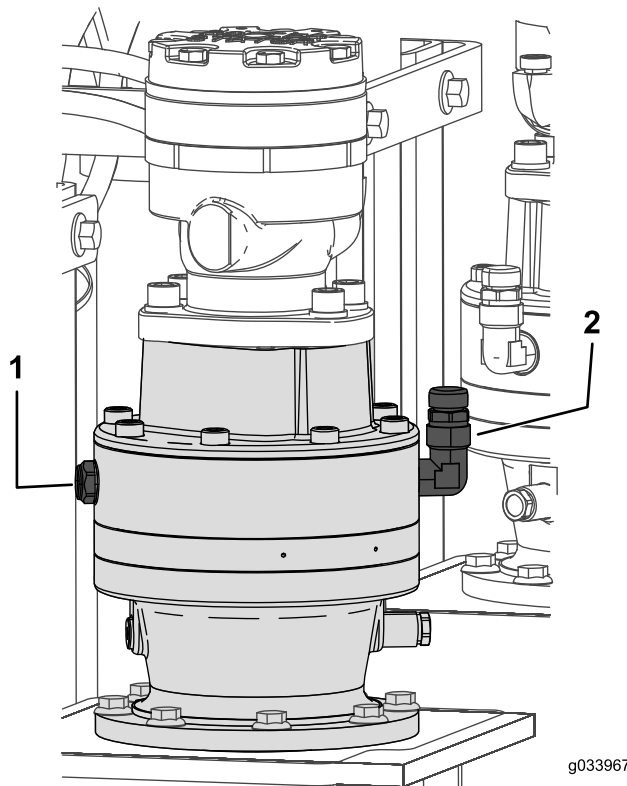

Figure 132
1. Check the oil level on the sight-glass on each stakedown planetary drive (Figure 132).
2. Remove the breather cap and add the oil into the planetary drive until the oil level on the sight-glass is at least half full (Figure 132).